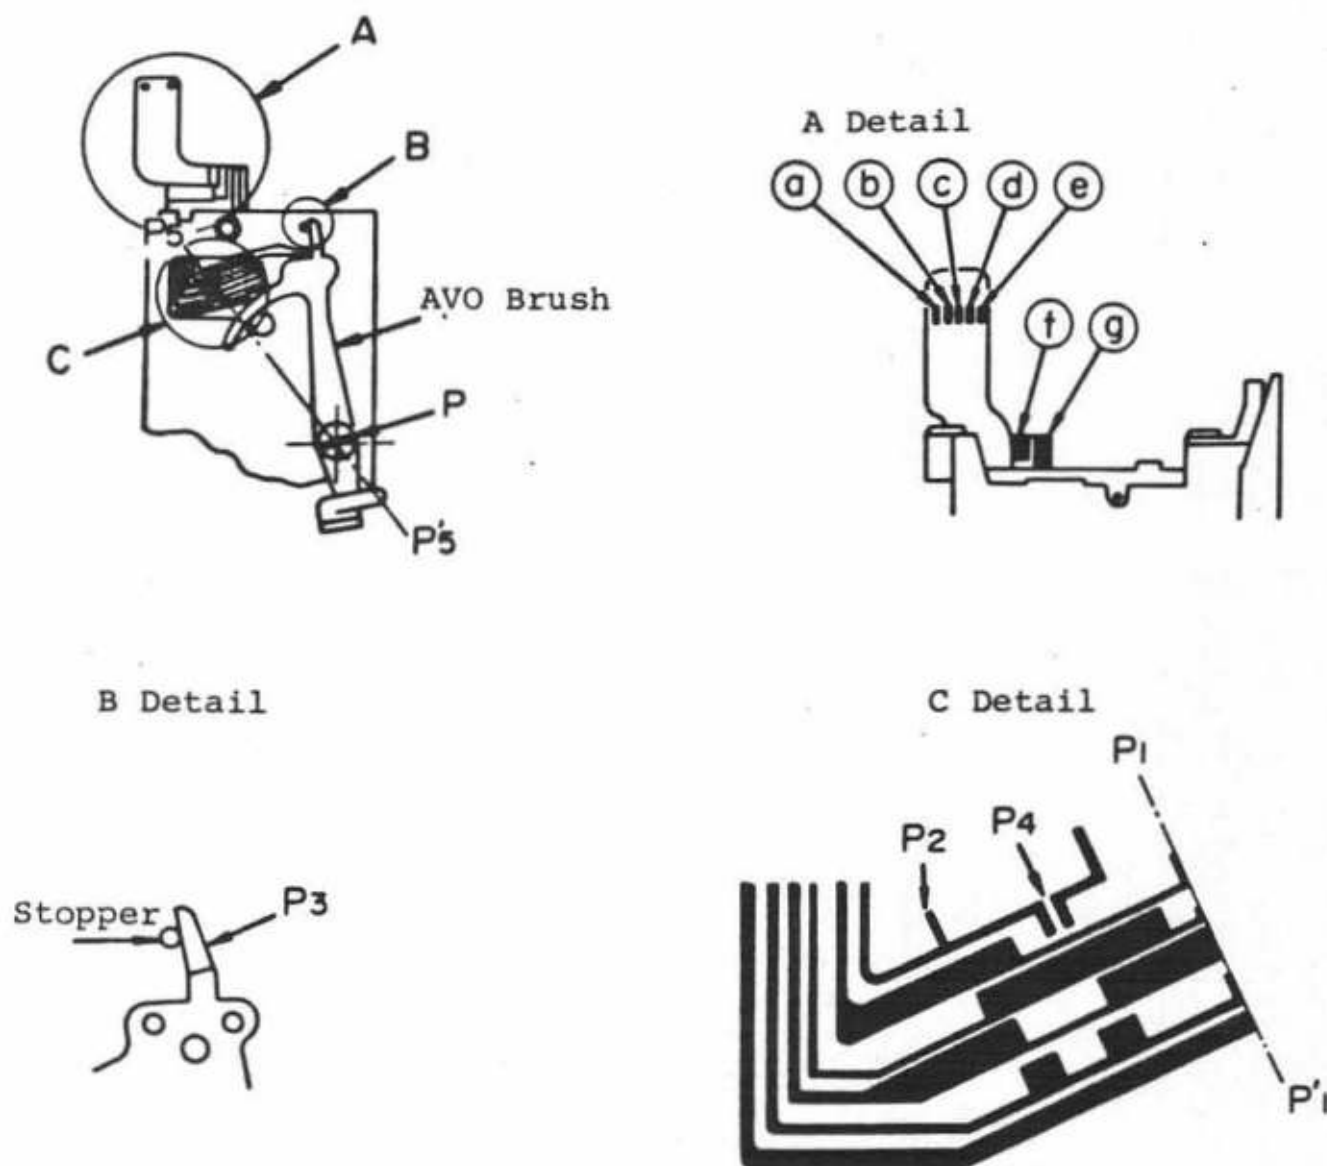

Fig. 2-9
1. Set the AVO brush at $P_1 - P_1'$. (Fig. 2-9)
1. Position the AVO brush against its stopper (Fig. 2-9, Detail B).
1. Two ohmmeters are necessary for this test. They should both be set on low OHM scales. Place the plus (+) lead of meter A on "f" and the minus (-) on "a" (Fig. 2-9).
2. Place the + lead of meter B on "g" and the - lead on "a" (also Fig. 2-9).